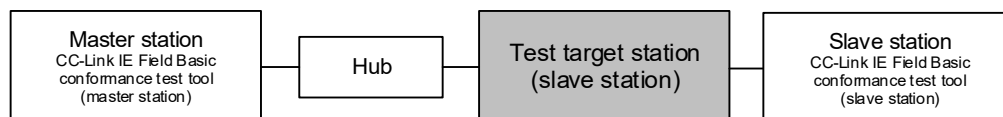

Figure 2 Aging test configuration for the test target station supporting a line topology
- The test target station^{*1} supporting a line topology should conduct the aging test by using all the ports at the same time as shown in Figure 2.